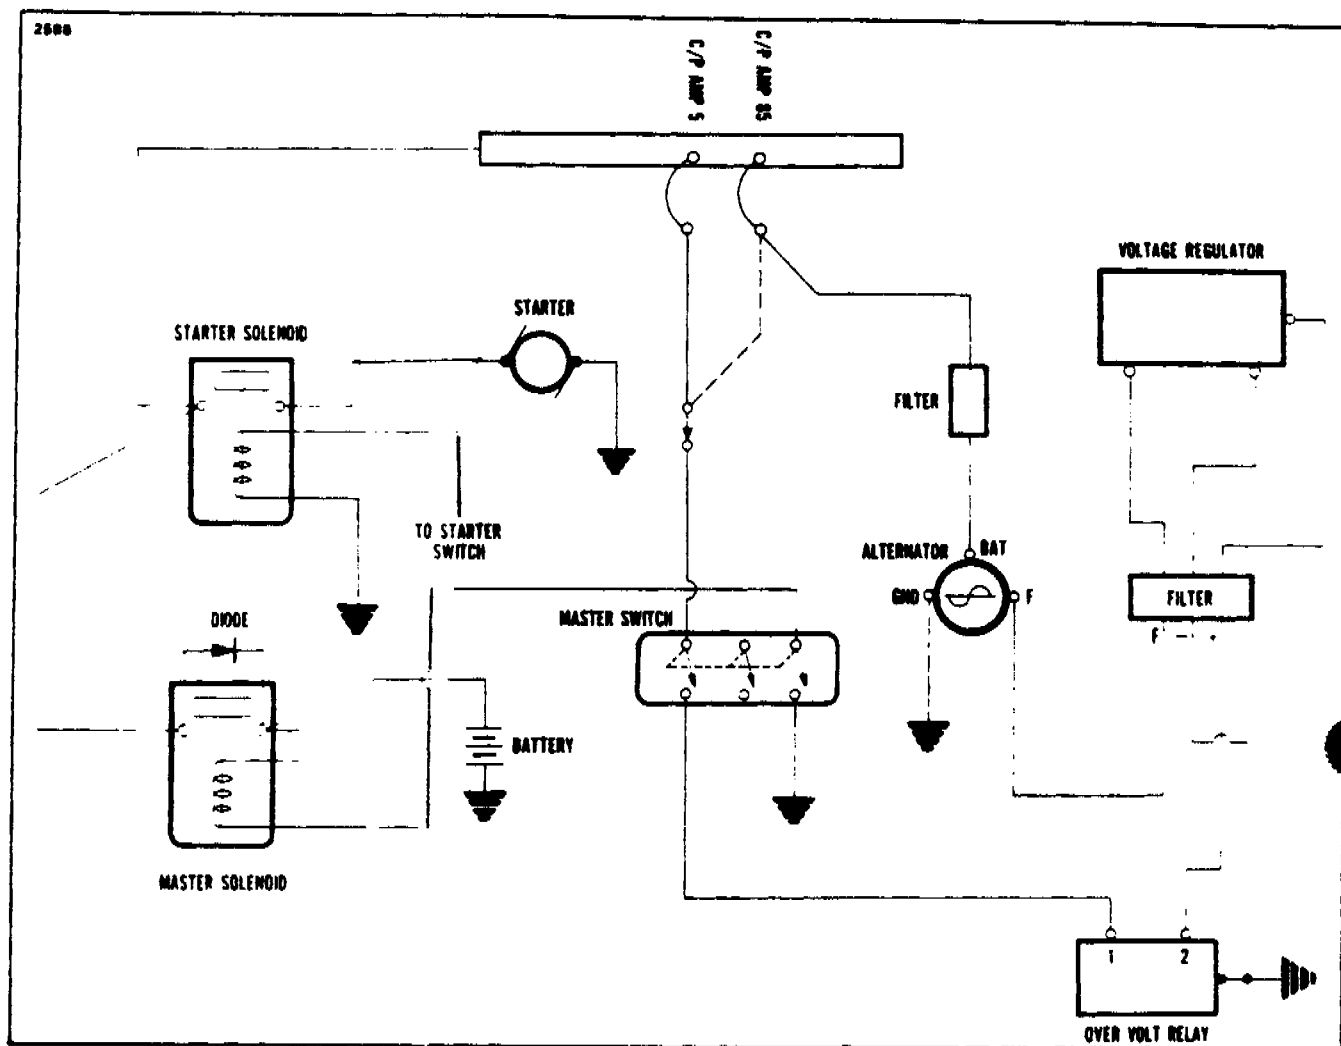

Figure 9-15. Alternator and Starter Wiring System
9-44. **Checking Alternator System.** The ammeter is equipped to check the electrical output-input of the battery. Should the alternator show no output on the ammeter, check the appropriate circuit breakers. If a further check of the ammeter shows no output from the alternator, check the alternator system. (Refer to Figure 9-15.)
- f. Should there be no indication of voltage, trace back through the output circuit until voltage is indicated. (Refer to Figure 9-15.) A component that allows no voltage to pass through it should be replaced.